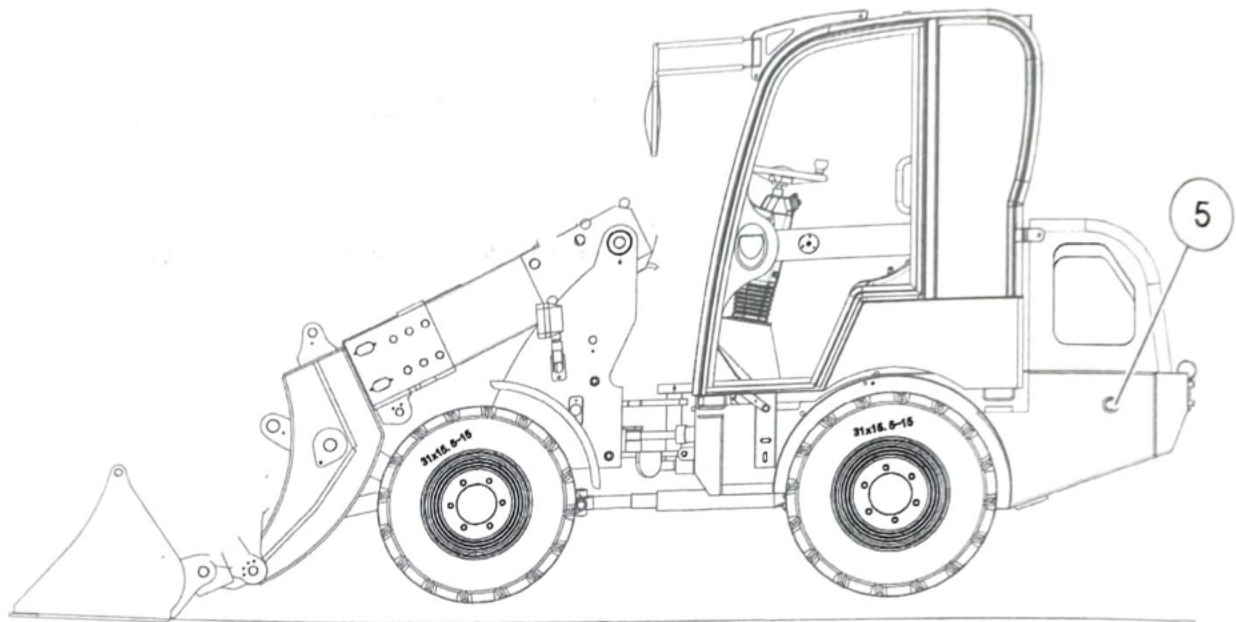

Figure 6-21 Hydraulic oil level gauge
(2) Cover (3) Hydraulic oil filter element
Step 7: Install the cover (2), install the radiator and other obstructive devices;
Step 8: Unscrew the hydraulic oil tank cap (4), add hydraulic oil not exceed the upper limit of the level gauge (5), and then install the hydraulic oil tank cap (4), as shown in Figure 6-20 and Figure 6-21;